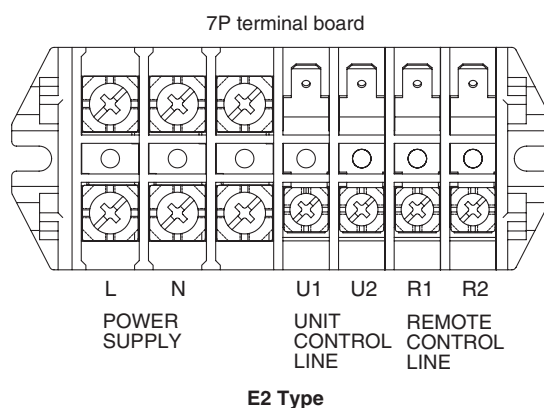

Fig. 4-2
- The basic connection diagram of the indoor unit shows the terminal boards, so the terminal boards in your equipment may differ from the diagram. (Fig. 4-2)